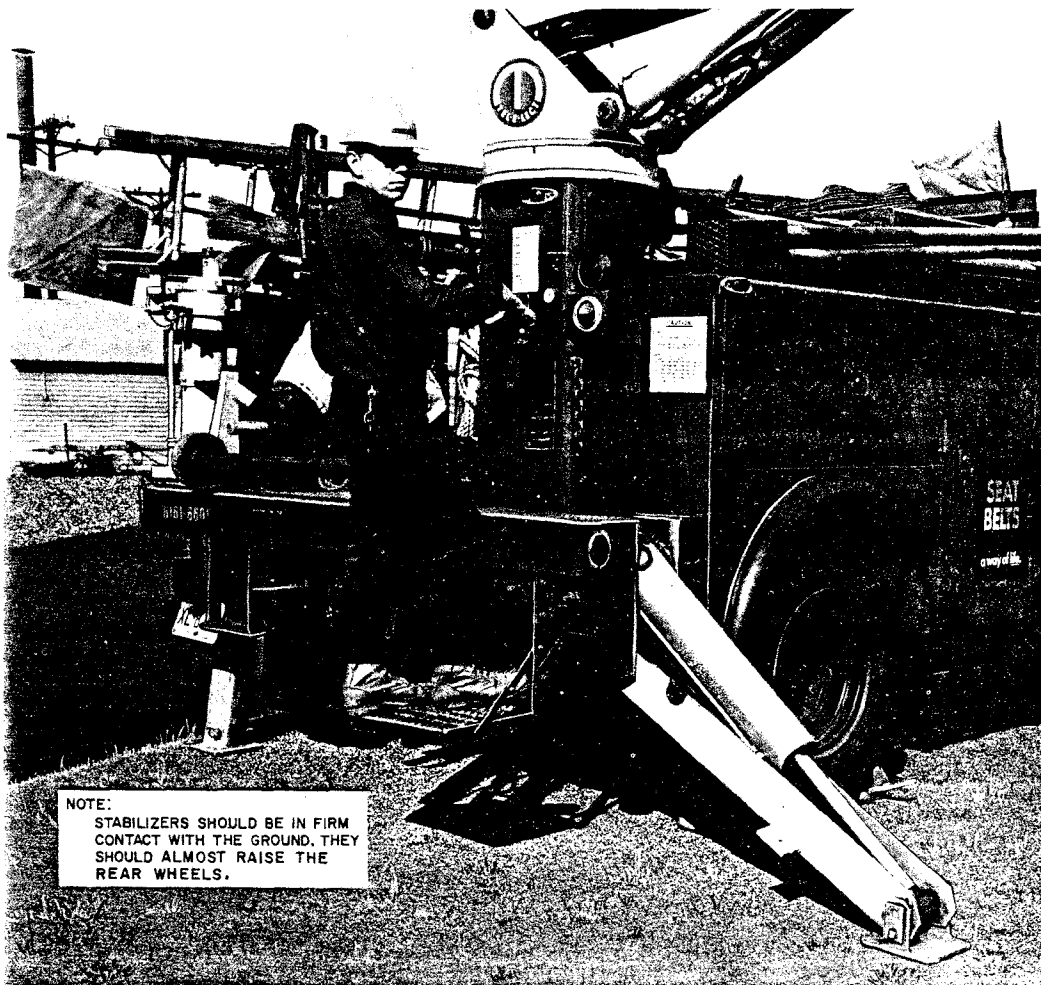

Fig. 3—Stabilizers in Lowered Positions
4.04 Before moving the derrick from the stowed position, lower the stabilizers to make firm contact with the ground (Fig. 3). Extend the stabilizers far enough to almost raise the rear wheels of the truck from the ground. This will lock out the rear springs and provide maximum stability.